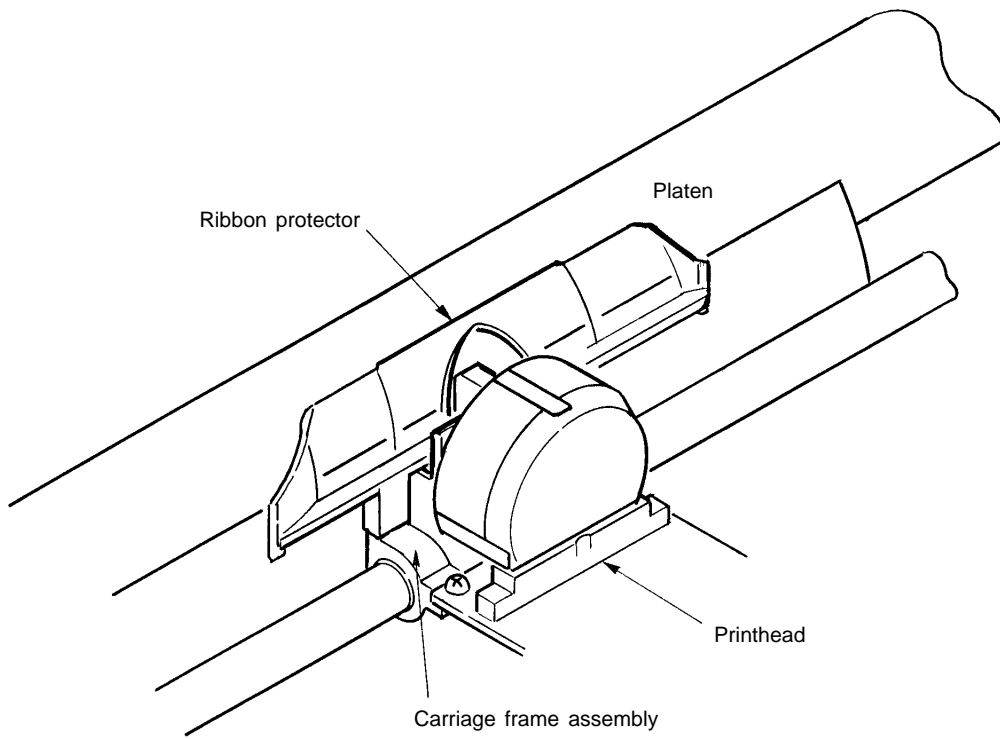

Figure 2-16
(4) Top line print mechanism (See Figure 2-16).